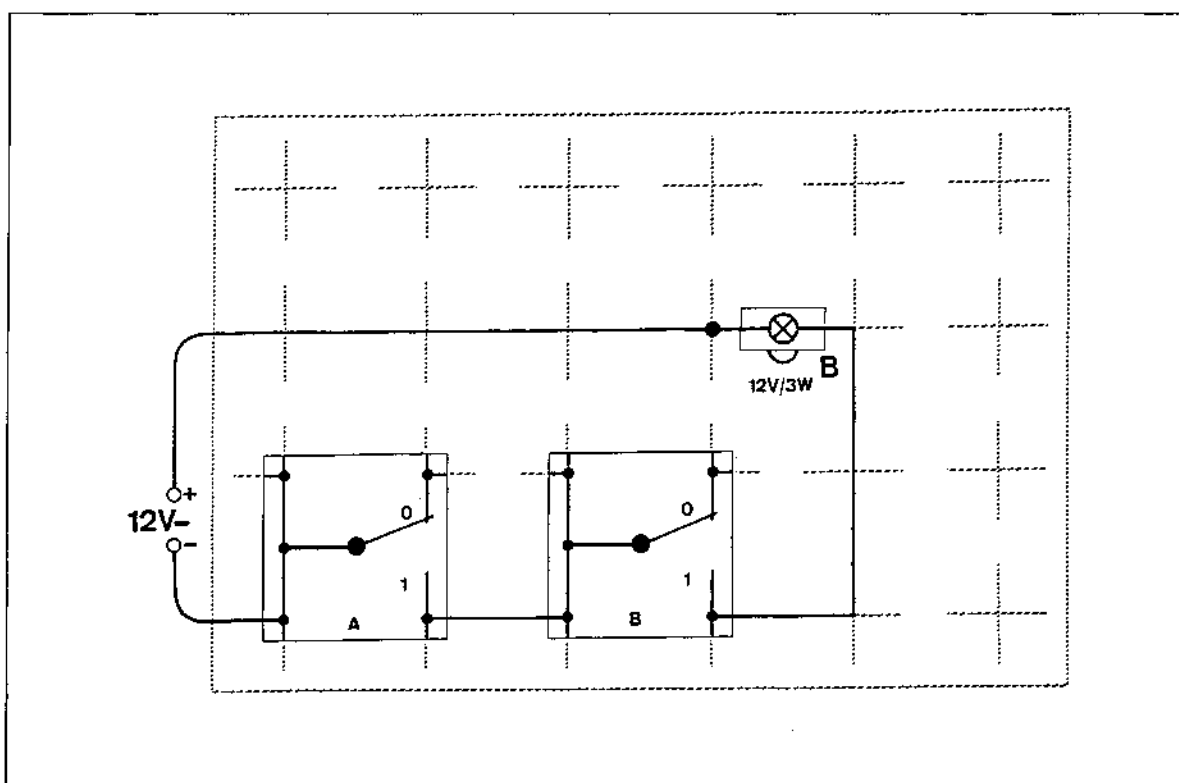

Fig. 1 Experiment setup: AND-gate
1. Set up the experiment as shown in fig. 1.